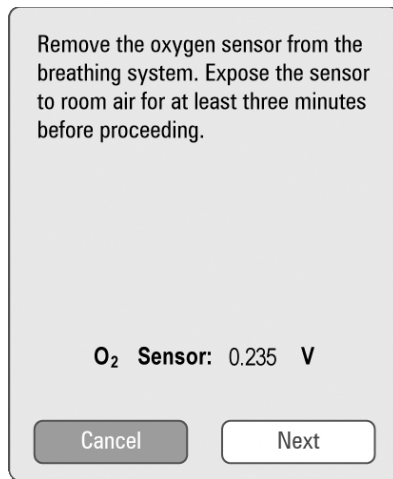
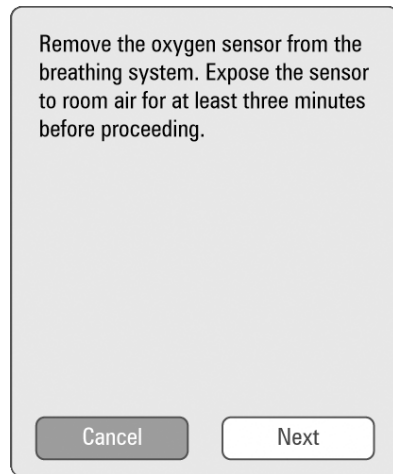

FIGURE 2-4 Oxygen Sensor Calibration Instructions
FIGURE 2-6 Oxygen Sensor Calibration Instructions (UI versions 2.24 and lower)
3. After the **Start Calibration** button has been selected, the screen shown in FIGURE 2-4 or FIGURE 2-6 will be displayed, instructing the user to remove the oxygen sensor (item 5, FIGURE 1-8) from the breathing system and expose it to room air for at least three minutes before proceeding. The O₂ sensor voltage is displayed during the calibration. This is the amplified O₂ cell voltage at the A/D converter for the oxygen sensor.